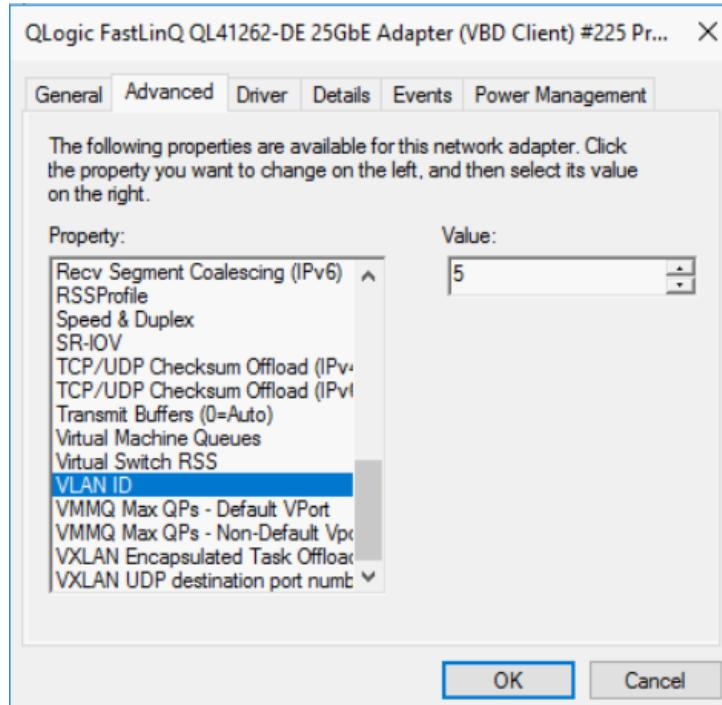

Figure 13-12. Advanced Properties: Setting VLAN ID
- b. On the adapter's Advanced Properties page (Figure 13-12) under **Property**, select **VLAN ID**, and then set the value.